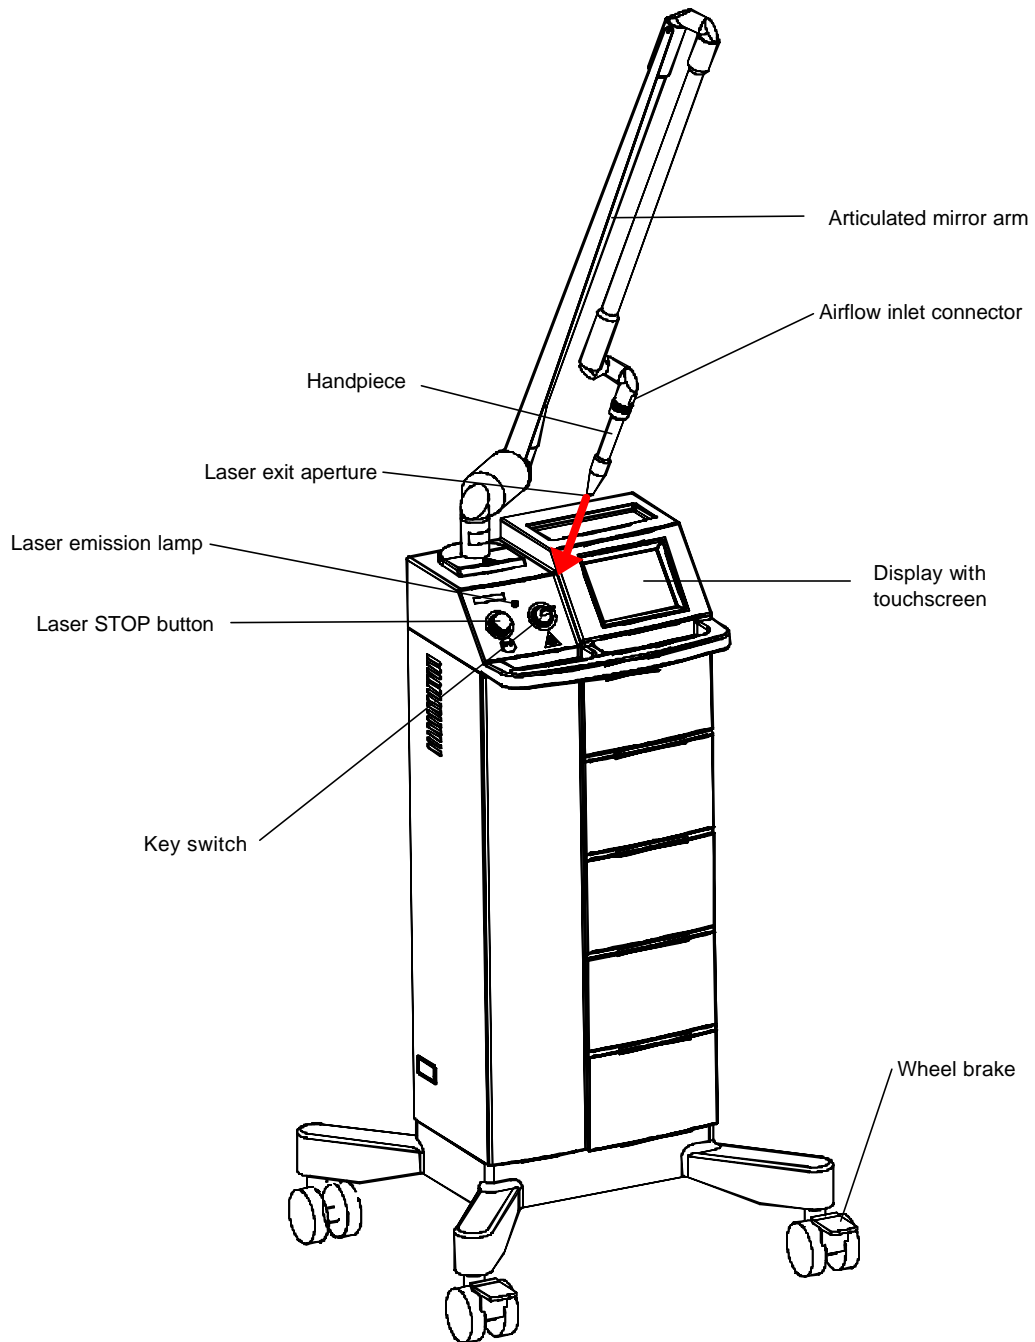

Figure 2: Front view
- ?? Afterwards, insert the safety key in the key switch (see *Figure 2*) and turn it clockwise as far as it will go.